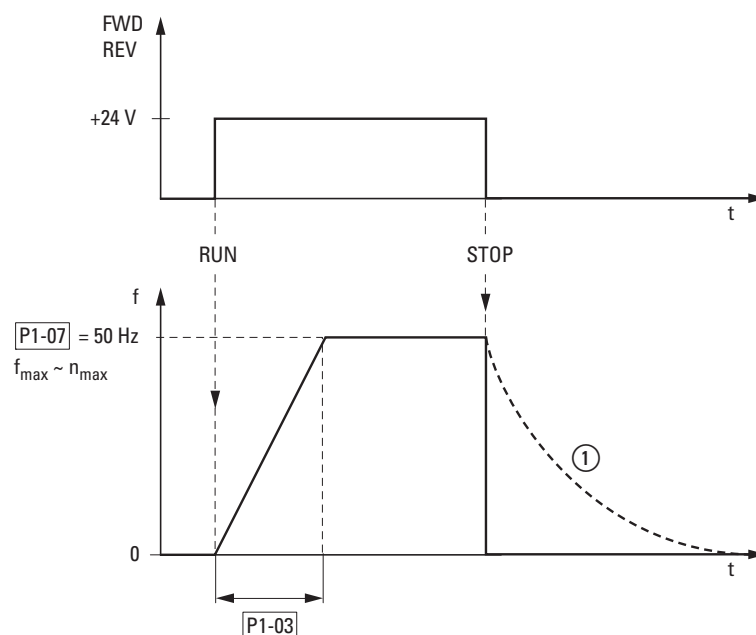

Figure 95: Start-Stop command with maximum reference voltage
Figure95 shows a good example of the process, if the release signal (FWD/REV) is switched on and the maximum setpoint voltage reference voltage (+10 V) is applied. The speed of the motor follows the output frequency depending on the load and moment of inertia (slip), from zero to  $n_{max}$ .
If the release signal (FWD, REV) is switched off during operation, the inverter is blocked immediately (STOP). The motor comes to an uncontrolled stop (see ① in Figure95).